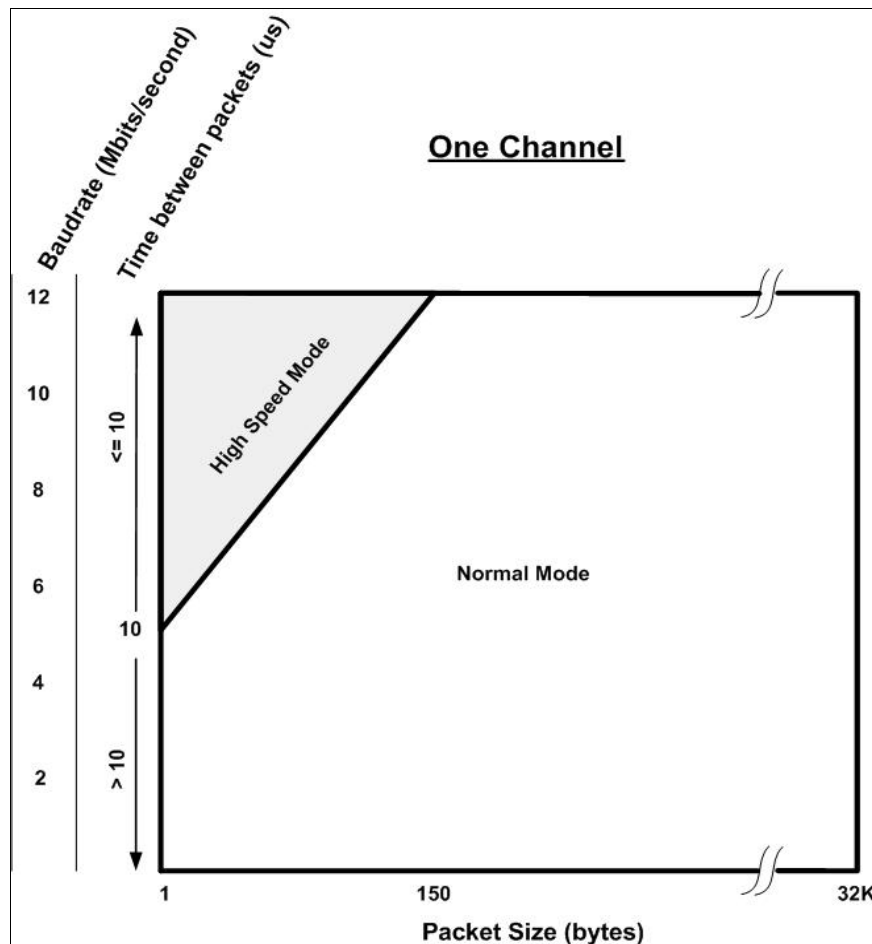

Figure 1 : Normal / High Speed Mode Selection
- High Speed Mode : Only Port A is enabled and this mode is only supported on a HSS card with a 100 MHz MPC862 processor. See Figure 1 and paragraph 3.3.12 for more details.